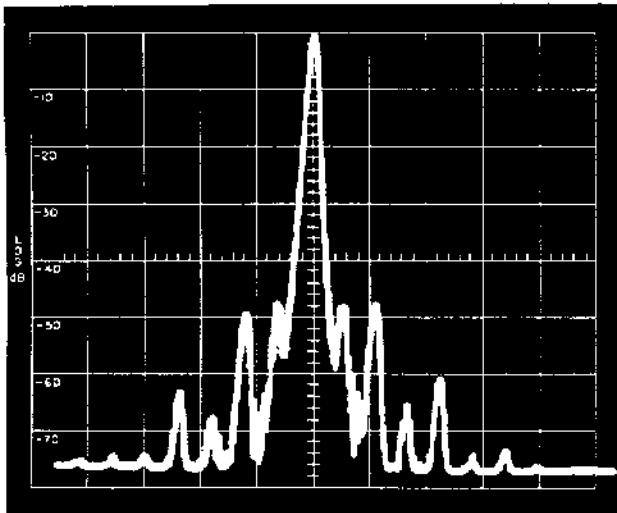

Figure 5-48. Typical Response, BFO Wide Band Spurious Products
(30) Refer to Figure 5-48 for a typical response.
(31) To reduce spurious responses, it may be necessary to repeat the alignment procedure, making slight adjustments to previous settings.
(32) Perform steps (1) through (5) of the BFO performance test, paragraph 5.6.16. If the knob is not at zero in step (5), loosen the set screws, rotate the knob to the correct position, and retighten the set screws. This completes the BFO alignment procedure.